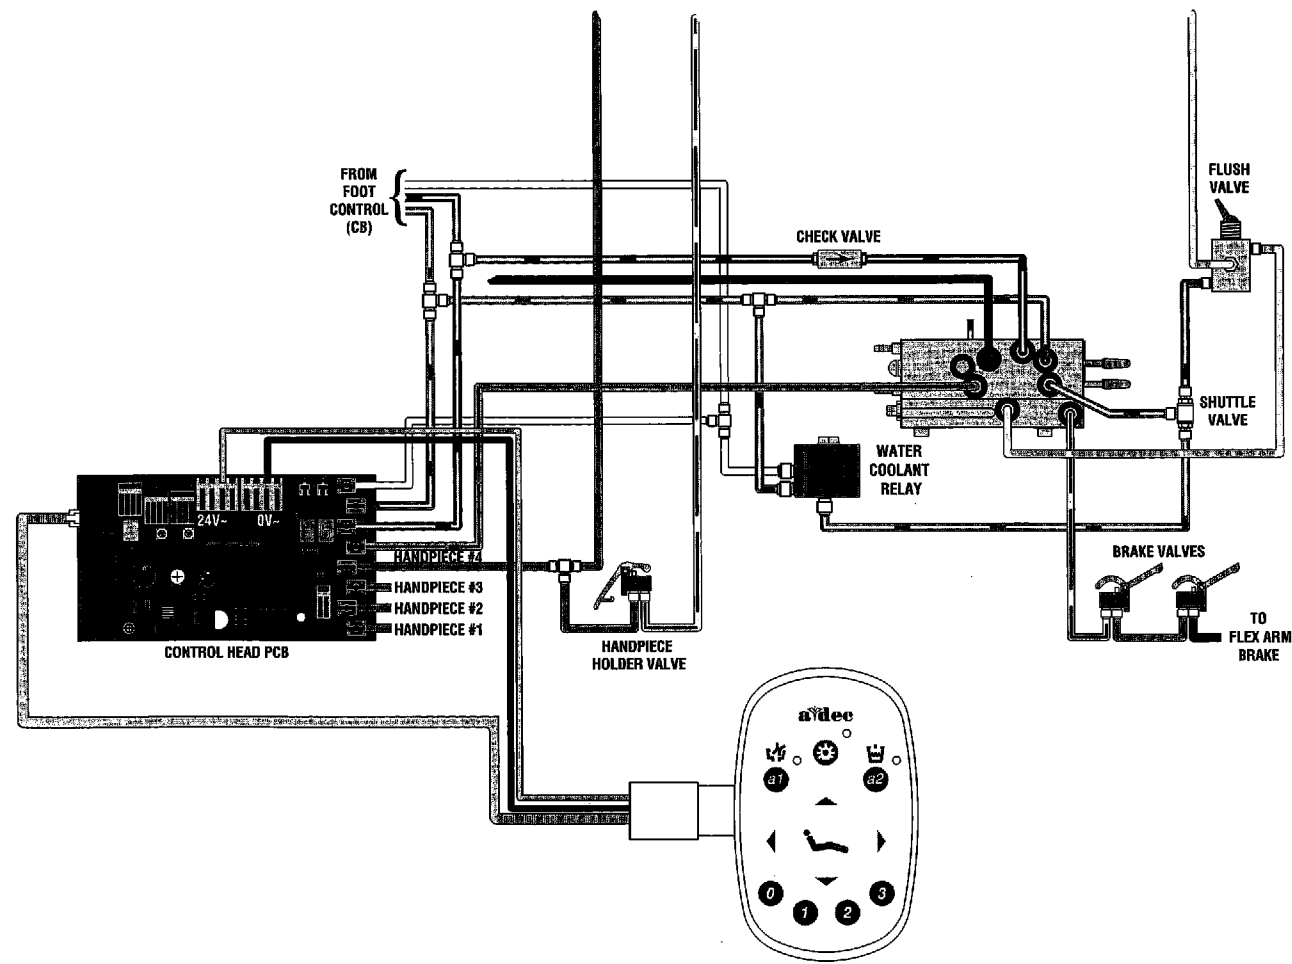

Figure 101. Connecting the tubing to the standard touchpad.
1. Cut the air coolant tubing (green with long white dash) on both sides of the tee coming off of the water coolant relay valve (see Figure 101).